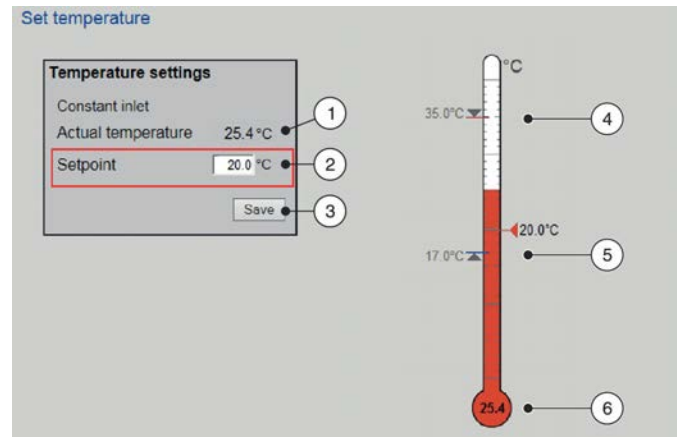

Fig. 33: Temperature setting
- Enter a temperature setpoint (Fig. 33/2).
- Click on 'Save' (Fig. 33/3).